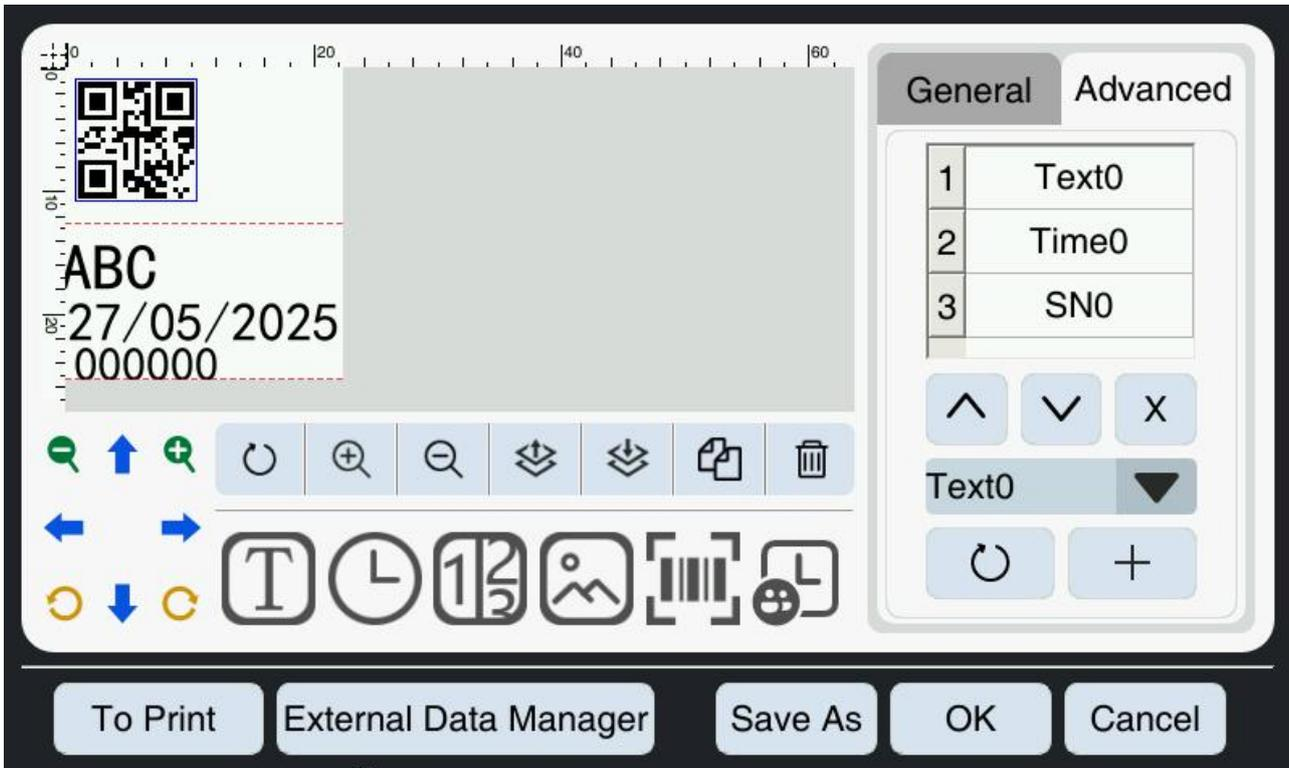

Figure 5-15 Load file interface
- 1 . Click the button on **Load File** the main interface to enter the loading file interface, as shown in Figure 5-15.
1. The operation interface for loading files is shown in Figure 5-15. After **Delete** you select a file, click the button to delete the selected file.